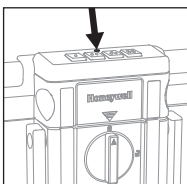

Figure 1.6
6. LED will flash Green and Red 3 times (Figure 1.6).